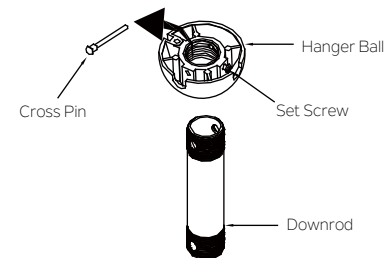

Fig. 7
Step 3. Remove the hanger ball from downrod assembly by loosening set screws , removing the cross pin, and twisting ball off the rod.(Fig. 7)